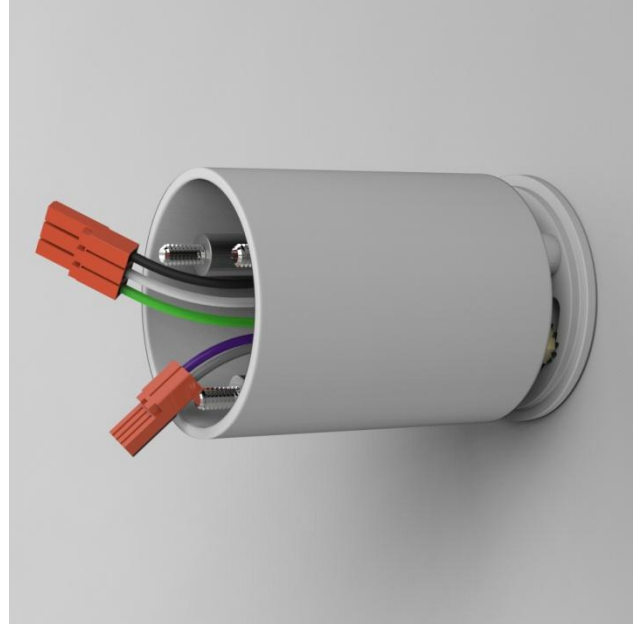

Figure 6
- Slide heavy walled tube over bowl mount anchor (Figure 6)